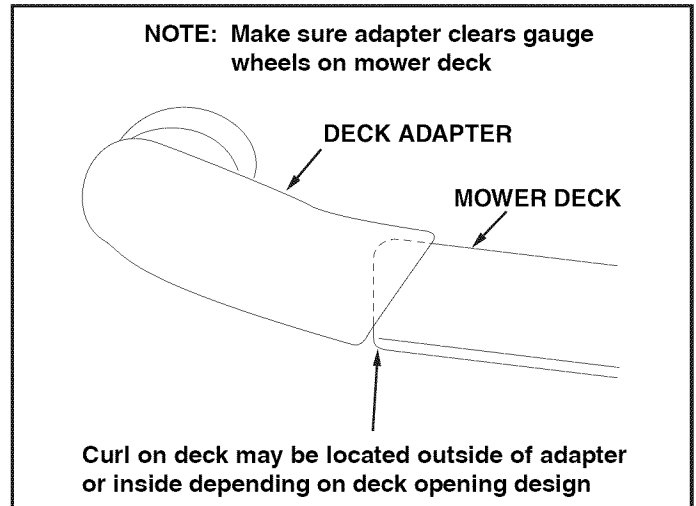

FIGURE 26
- Position the adapter over the deck opening, and check for fit of cutout as shown in figure 26. Trim cutout, if necessary, to allow tilting of adapter, keeping the fit as close as possible for best vacuum suction.